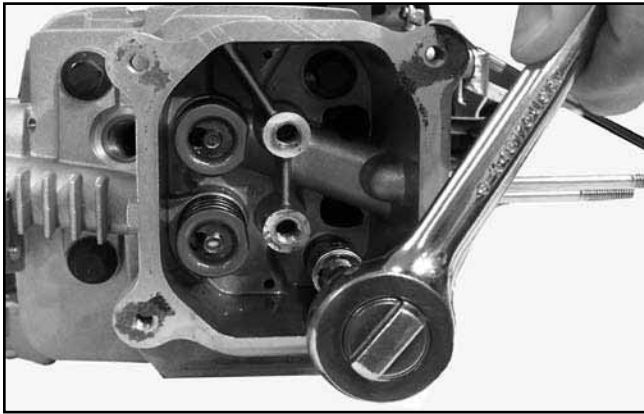

Figure 8-40. Removing Cylinder Head.
1. Remove the four hex flange screws securing the cylinder head. See Figure 8-40.
3. Remove the head gasket and discard. See Figure 8-40.